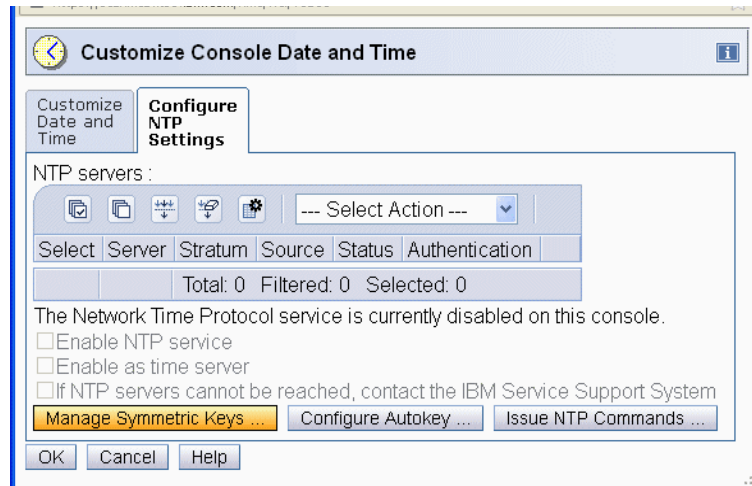

Figure 1-3 Manage Symmetric Keys in Configure NTP Settings
1. From the Configure NTP settings tab click **Manage Symmetric Keys** (Figure 1-3 on page 8).